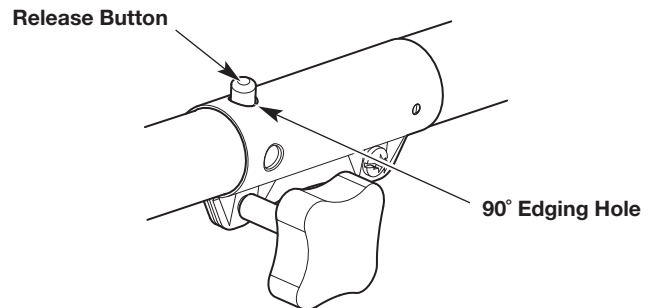

Fig. 14
3. Rotate the attachment until the release button snaps firmly into the 90° edging hole (Fig. 14).